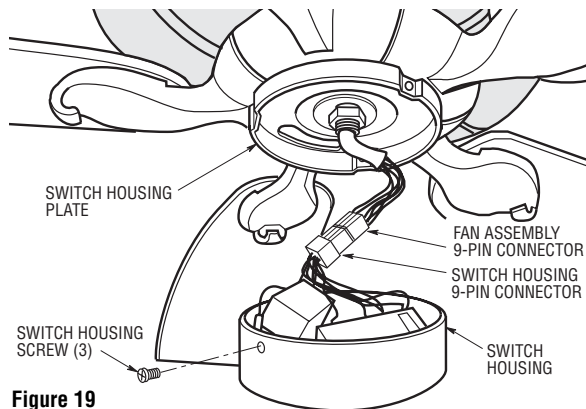

Figure 19
- 1. Attach the 9-pin connector of the switch housing to the 9-pin connector of the fan assembly. (Figure 19).